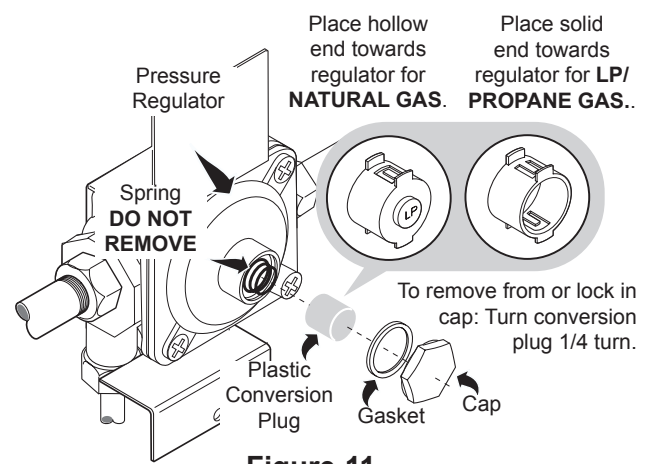

Figure 11
**Convert the Pressure Regulator for use with LP Gas** (see Figure 11).
Locate pressure regulator on lower back wall and convert as shown in Figure 11.